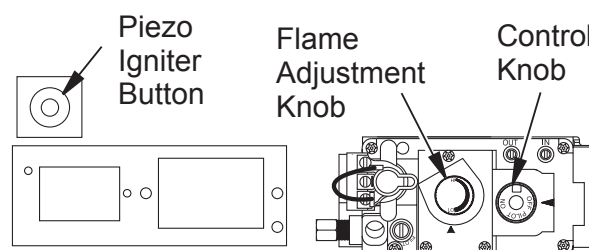

Figure 29 - Control Knob and Igniter Button Location (Shown as Supplied - No Control Options)
5. Press in and turn control knob counterclockwise ↶ to the PILOT position. Press in control knob for five (5) seconds (see Figure 29). **Note:** You may be running this fireplace for the first time after hooking up to gas supply. If so, the control knob may need to be pressed in for 30 seconds or more. This will allow air to bleed from the gas system.